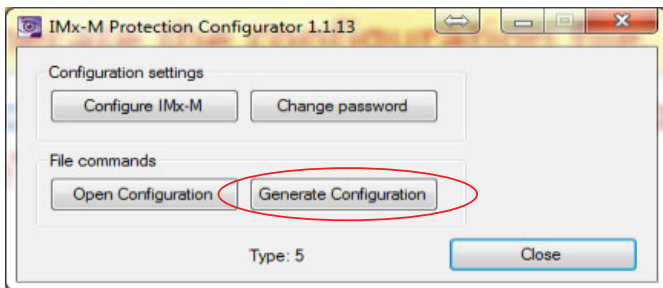

Fig. 10. Generating the new configuration file.
- 8 When all the parameters are configured, click **Close** and then generate the configuration file (→ **fig. 10**). The configuration file will be stored in the same folder as where the IMx-M Protection Configurator software is located.